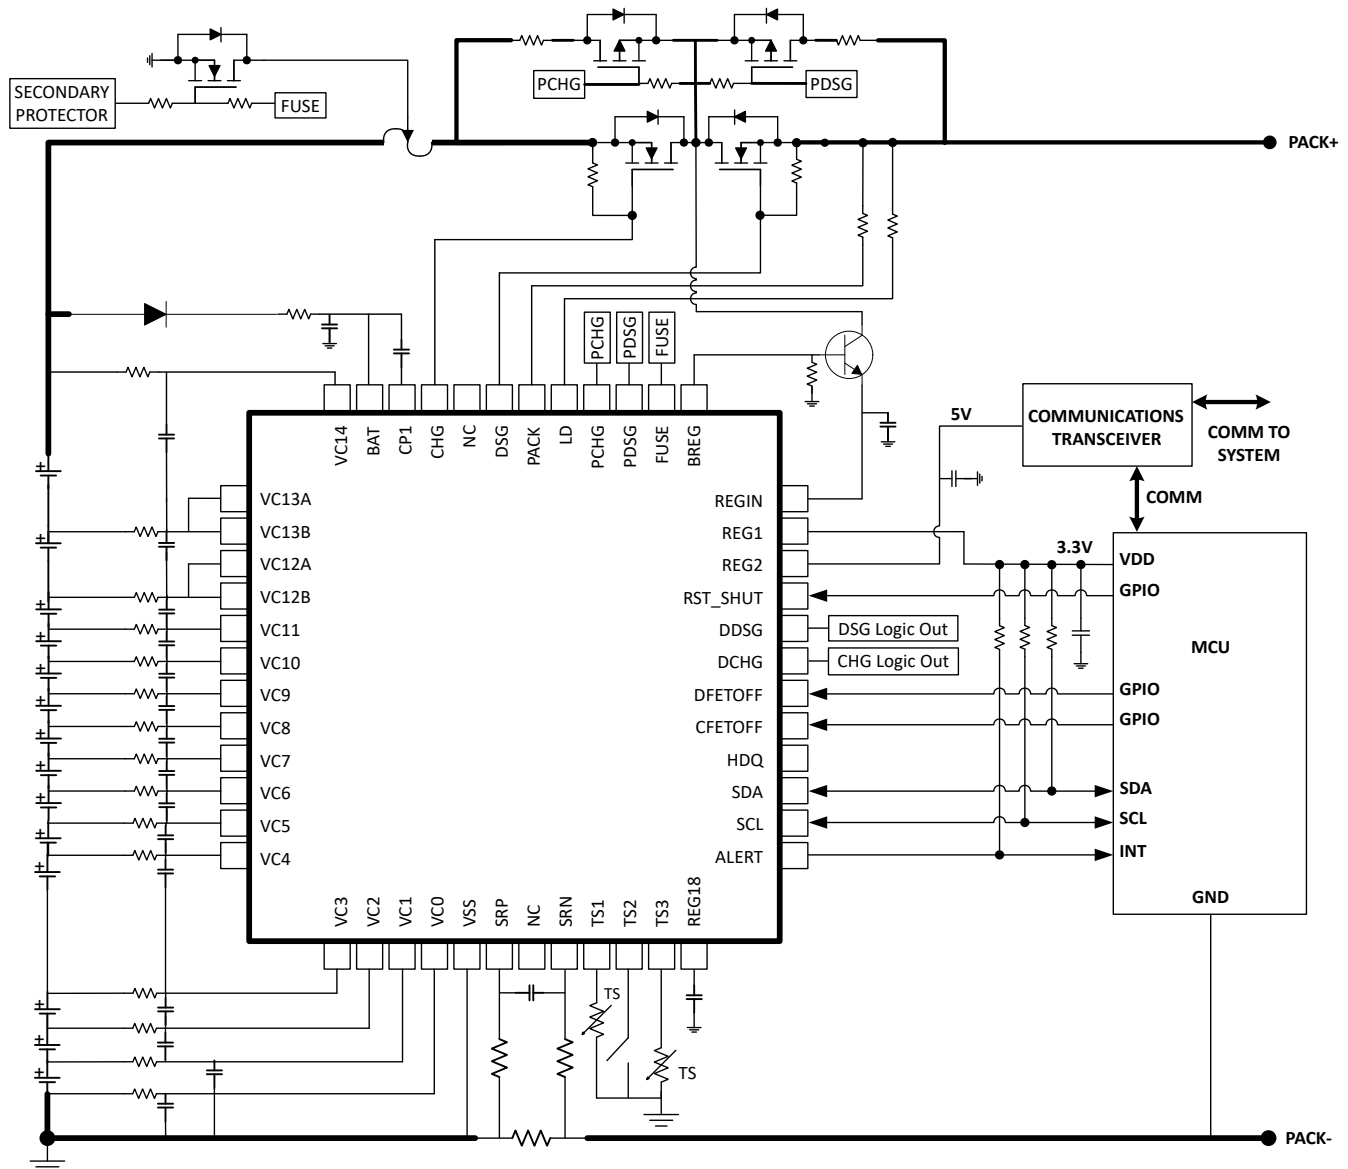

图 16-1. BQ769142 14-Series Cell Typical Implementation (Simplified Schematic)
**图 16-1** shows a simplified application schematic for a 14-series battery pack, using the BQ769142 together with an external secondary protector, a host microcontroller, and a communications transceiver. This configuration uses CHG and DSG FETs in series, together with high-side PFET devices used to implement precharge and predischage functionality. See the following implementation considerations:
图 16-2 和 图 16-3 show a full schematic of a basic monitor circuit based on the BQ769142 for a 14-series battery pack. The BQ76952 EVM also provides a good reference design for BQ769142, noting that the VC12 - VC16 connections in the BQ76952 EVM need to be modified as shown in 图 16-1.